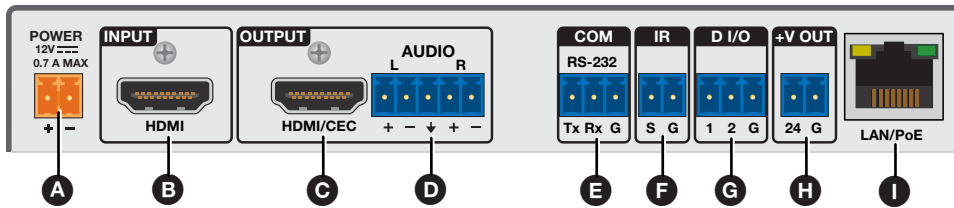
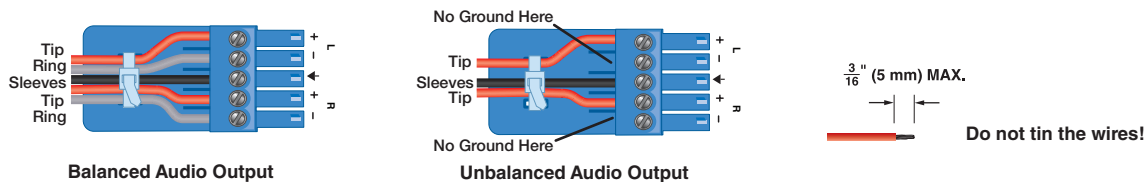

Figure 2. WC Pro 160 Rear Panel
Figure 4. Wiring for Balanced Audio
- D Audio connector** — Connect powered speakers or an amplifier to this 5-pole captive screw connector for de-embedded analog, balanced or unbalanced stereo output (see figure 4 on page 5 for wiring instructions).
- I LAN LEDs** — The LINK and ACT LEDs are also on the rear panel RJ-45 connector (see figure 2, **I** on page 2).
- (Optional) Wire and connect the provided power supply to the two-pole rear panel POWER connector (see figure 2, A on page 2, and the image above, right).
- Connect an HDMI source to the INPUT connector (B).
- Connect an HDMI display to the rear panel OUTPUT connector (C).
- Connect powered speakers or an amplifier to the 5-pole AUDIO output connector (D, and figure 4).